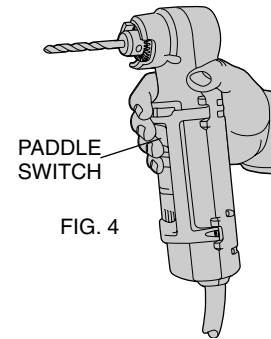

FIG. 4
To turn the tool on, depress the paddle switch that runs the length of the tool, as shown in Figure 4. To turn the tool off, release the paddle.
9. For optimum control and comfort, the drill may be grasped in one of the following illustrated manners: Around the neck of the drill using one or two fingers to operate the paddle switch as in Figure 4, in an inverted position with the heel of the hand pushing on the head of the drill and one or two fingers on the paddle switch